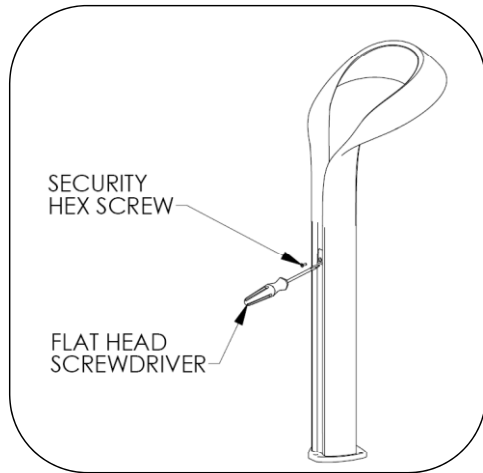

Fig. 5 – Remove access panel
1. Remove security screw as shown in Fig. 5. Security hex key is included.
2. Slide access panel cover up 1/2". If necessary, use a flat head screwdriver as shown in Fig. 5 to pry up the panel. Protect the powdercoat finish.